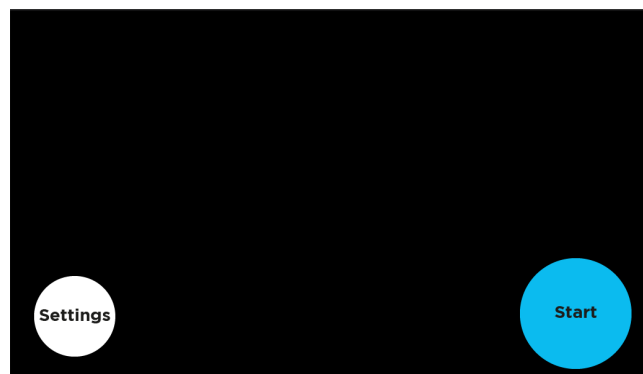

Figure 8. The home screen.
2. Confirm that samples and beads have been correctly added to Row A1 of the tube carrier assembly in the sample deck (Figure 8).